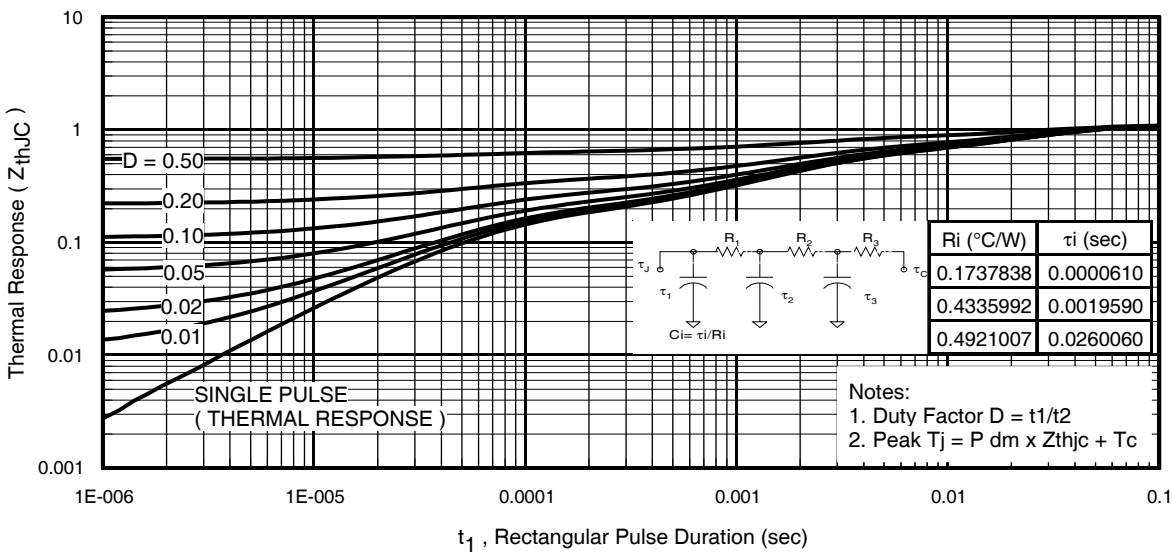

Fig 11. Maximum Effective Transient Thermal Impedance, Junction-to-Case
- ① Repetitive rating; pulse width limited by max. junction temperature. (See fig. 11)
- ② Starting $T_J = 25^\circ\text{C}$, $L = 0.88mH$